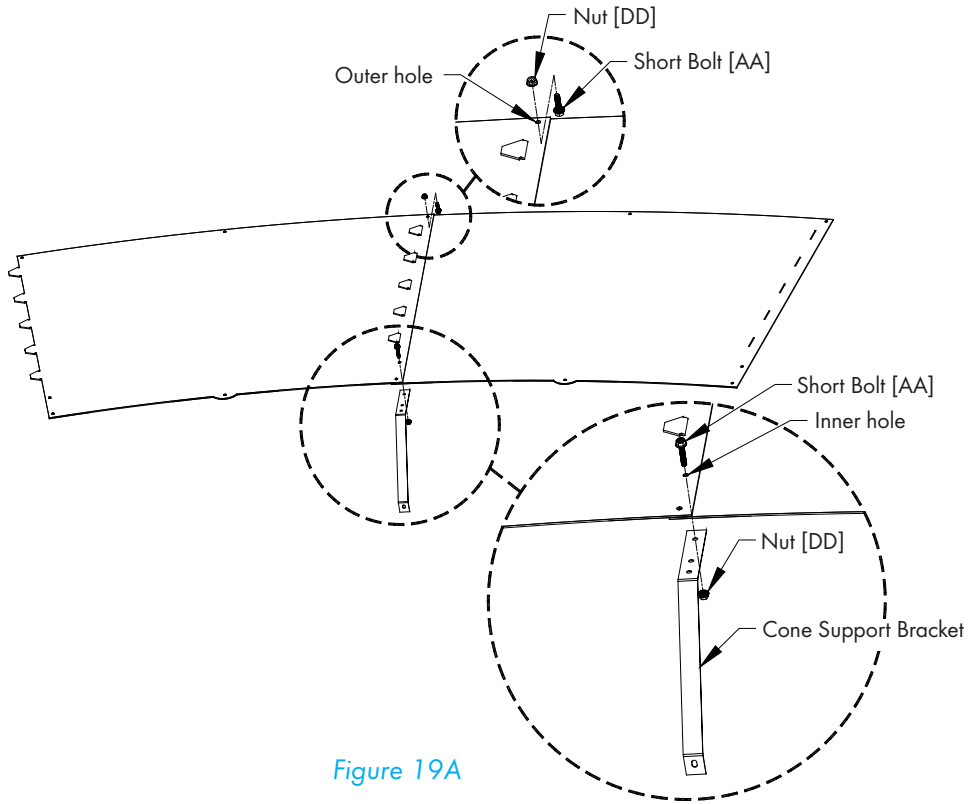

Figure 19A
Fasten each of the joints in the single outer hole using (1) Short Bolt [AA] and Nut [DD], with the nut on the side with the tabs. At the inner pair of holes of each joint attach (1) Cone Support Bracket to the inner hole using (1) Bolt [AA] and Nut [DD] with the bolt head on the side with the tabs. See Figure 19A.